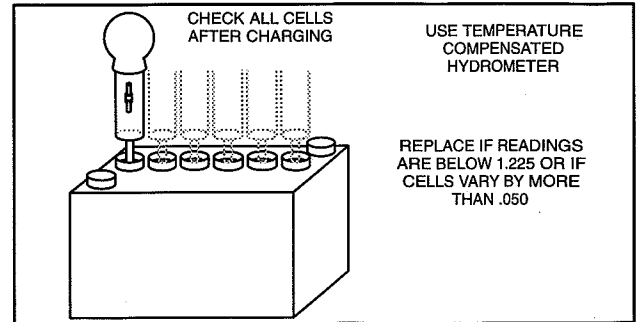

Fig. 30 – Checking 12 V Battery Cells (Lead Acid, Wet Cell, With Fill Caps)
3. With battery fully charged, check specific gravity readings (unless maintenance free type) of each cell with a Battery Hydrometer and record readings (Fig. 30).